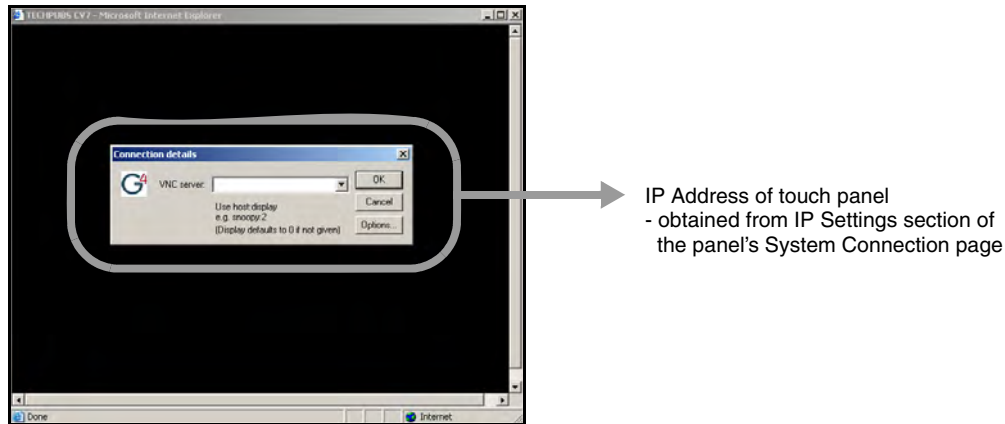

FIG. 83 Connection Details dialog
9. In some cases, you might get a *Connection Details* dialog (FIG. 83) requesting a VNC Server IP Address. This is the IP Address not the IP of the Master but of the target touch panel. Depending on which method of communication you are using, it can be found in either the: